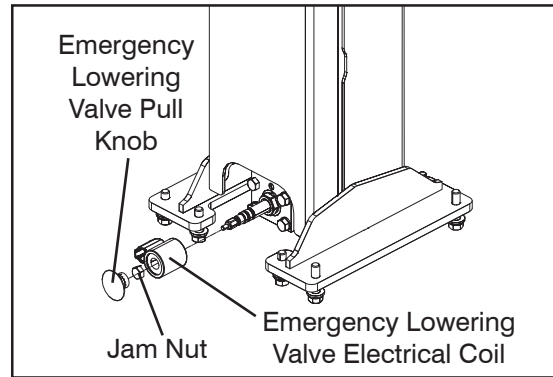

Figure 5-29. Emergency Lowering Valve Installation
6. Install the emergency lowering valve electrical coil and the pull knob. Torque the jam nut to 60 lb-in. See Figure 5-29.
9. Connect all the mast electrical connections to the main harness and connect the electrical connection on the emergency lowering valve coil. See Figures 5-29 and 5-30.